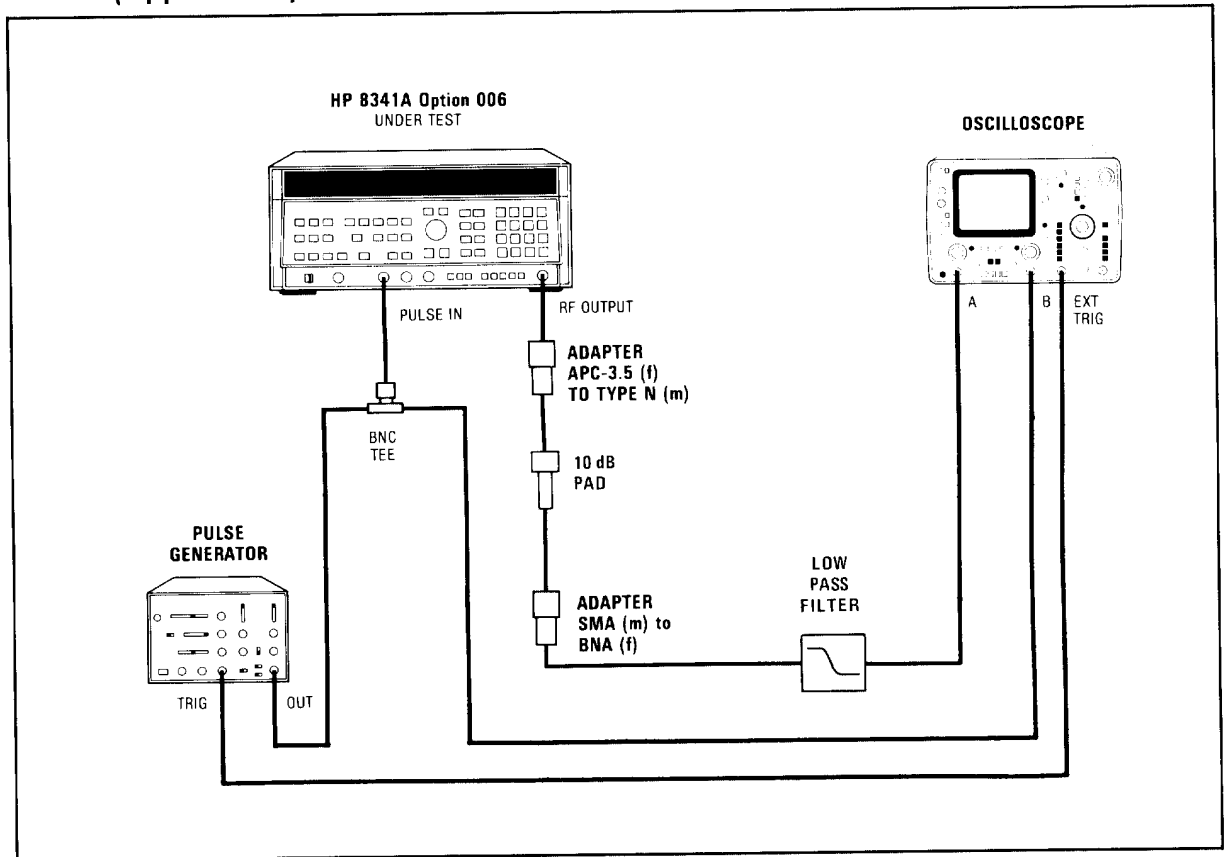

Figure 4-17. Pulse Modulation Video Feedthrough Test Setup
1. Connect equipment as shown in Figure 4-17. Attach the BNC tee directly to the HP 8341A PULSE input connector. Allow at least 30 minutes warm up time.